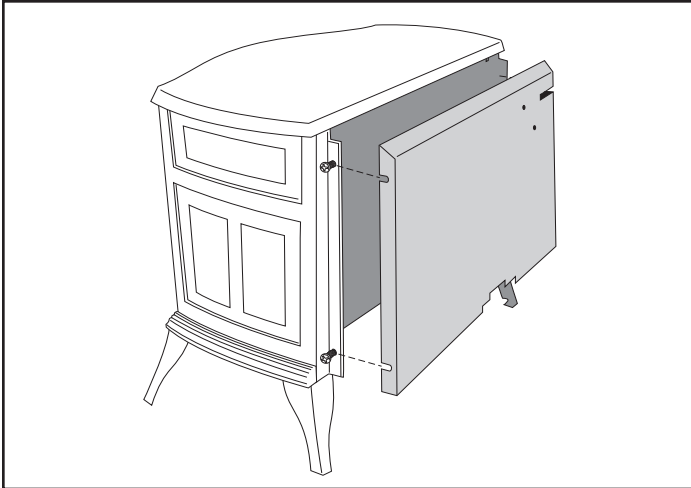

Figure 1 - Remove rear shroud panel.
1. Remove the rear shroud panel, Figure 1.